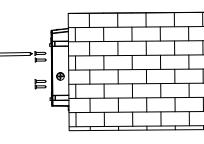

Figure 8
8. Install back mounting plate onto the mounting seat with screws. (Figure 8) See installation instructions for special function adjustments.